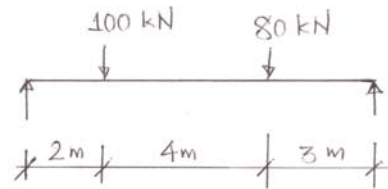

Fig. 2
- (b) Find the deflection and slope under load 100 kN using conjugate beam method. Refer Fig. 2. $E = 200 \text{ GPa}$ and $I = 150 \times 10^6 \text{ mm}^4$. **07**